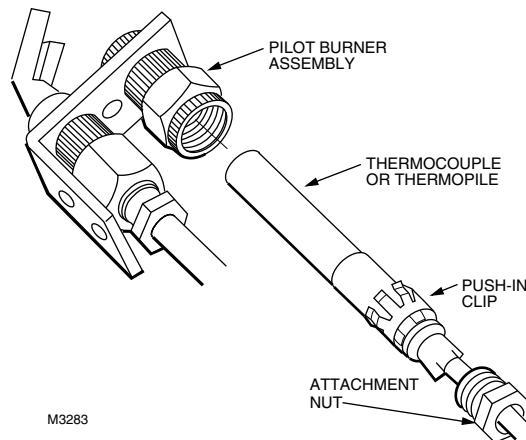

Fig. 4. Installing thermocouple or thermopile.
1. Insert thermocouple or thermopile tip into hole or barrel provided beneath pilot burner. See Fig. 4.
1. Insert thermocouple or thermopile tip into hole or barrel provided beneath pilot burner. See Fig. 4 and 5.